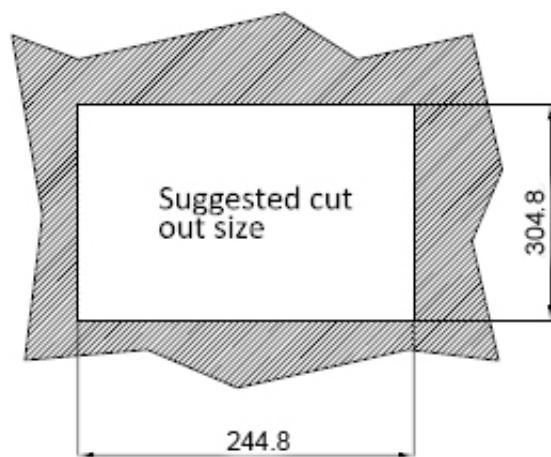
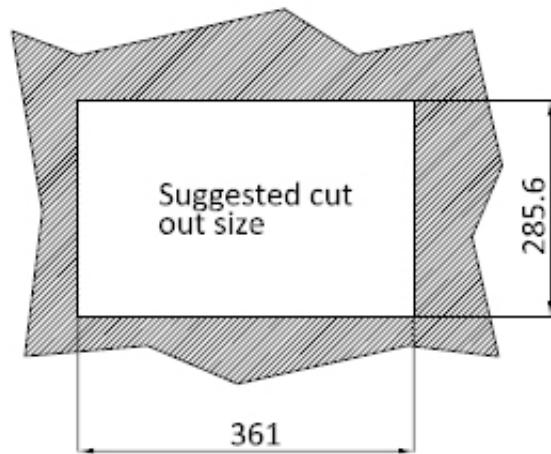
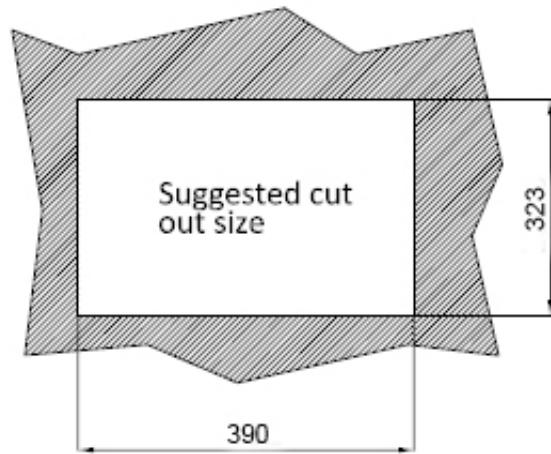
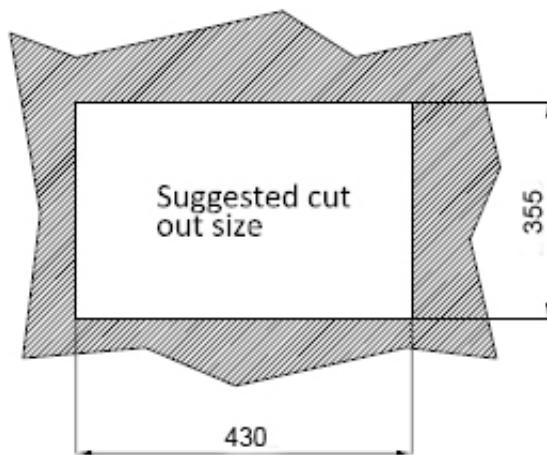

Figure 3-27: PPC-F12B-BTi Panel Cutout Dimensions
Figure 3-28: PPC-F15B-BTi Panel Cutout Dimensions
Figure 3-29: PPC-F17B-BTi Panel Cutout Dimensions
Figure 3-30: PPC-F19B-BTi Panel Cutout Dimensions
Step 3: Cut out a section of the panel that corresponds to the rear panel dimensions of the PPC-F12B/15B/17B/19B-BTi. The recommended cutout sizes are shown below (**Figure 3-27**, **Figure 3-28**, **Figure 3-29** and **Figure 3-30**).